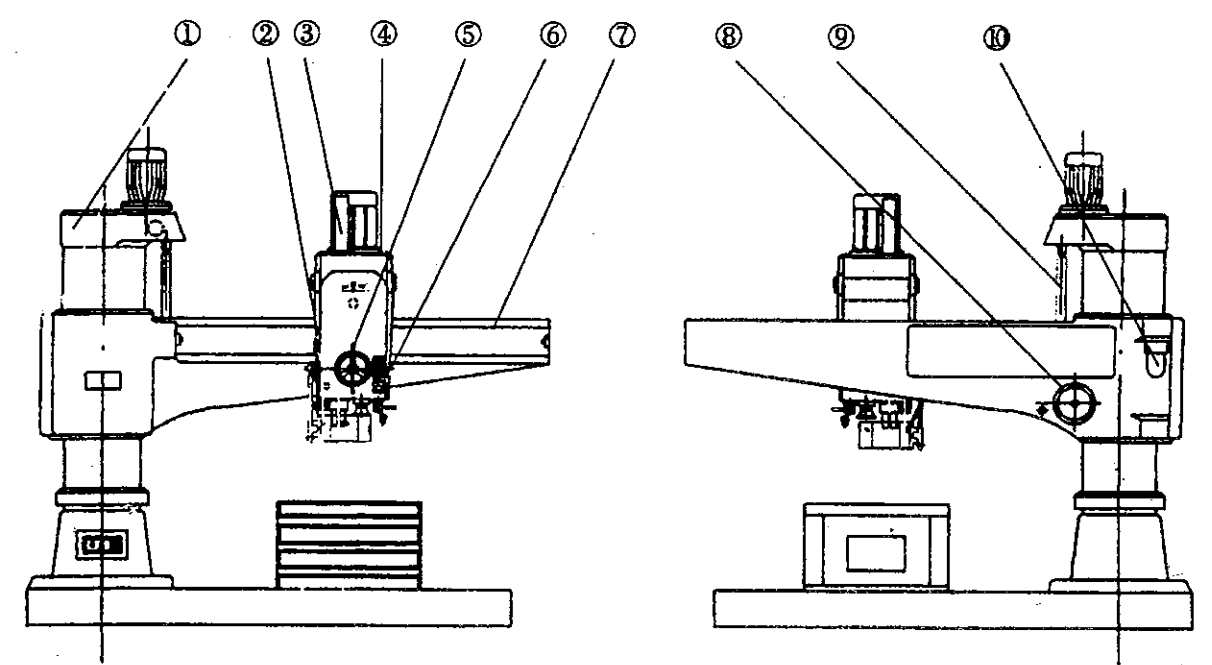

Fig. 2.6 Lubrication of machine tool
2.3.9 Drop lube oil on the outer column, then allow the arm to fall about 50 mm, wipe the exposed part clean, and then lubricate it again, allow the arm to rise about 100 mm, wipe the exposed part clean again and lubricate sufficiently, at this time it is allowed the arm to rise and fall in a larger amplitude, **Note: Do not scratch the surface of the outer column;** Then fill oil according to the requirement of the lubrication diagram (Fig. 2.6) and the lubrication table, check the lubrication condition, fill cooling liquid which meets the requirement in the cooling water tank.
2.4.10 Drop lube oil on the outer column, then allow the arm to fall about 50mm, wipe the exposed part clean, and then lubricate it again, allow the arm to rise about 100 mm, wipe the exposed part clean again and lubricate sufficiently, at this time it is allowed the arm to rise and fall in a larger amplitude, **Note: Do not scratch the surface of the outer column;** Then fill oil according to the requirement of the lubrication diagram (Fig. 2.6) and the lubrication table, check the lubrication condition, fill cooling liquid which meets the requirement in the cooling water tank.